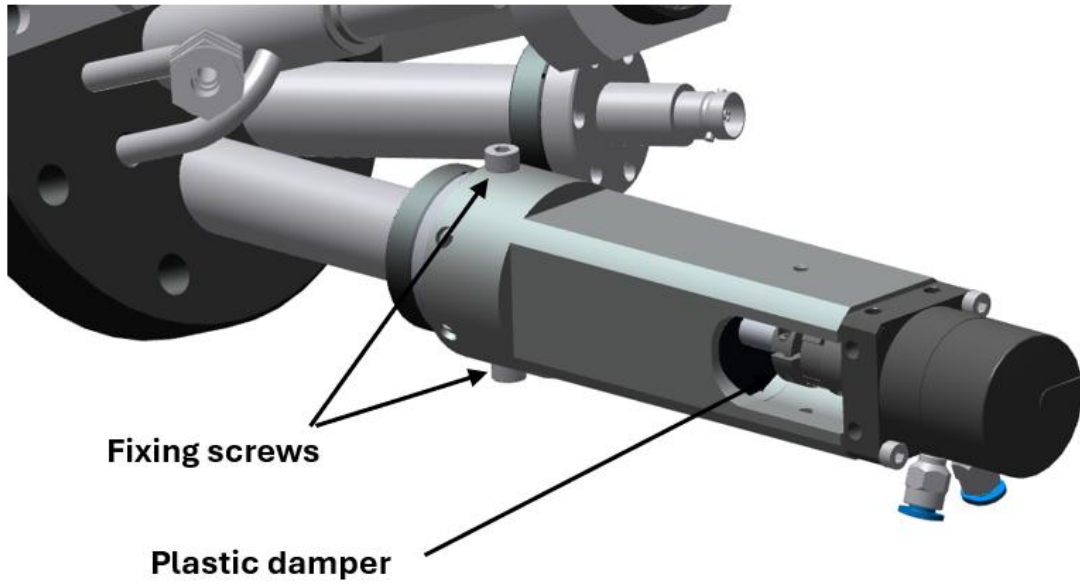

Figure 1 Image of shutter drive.
4. Remove shutter drive by taking out fixing screws (see Figure 1) and pull top cover with actuator out.